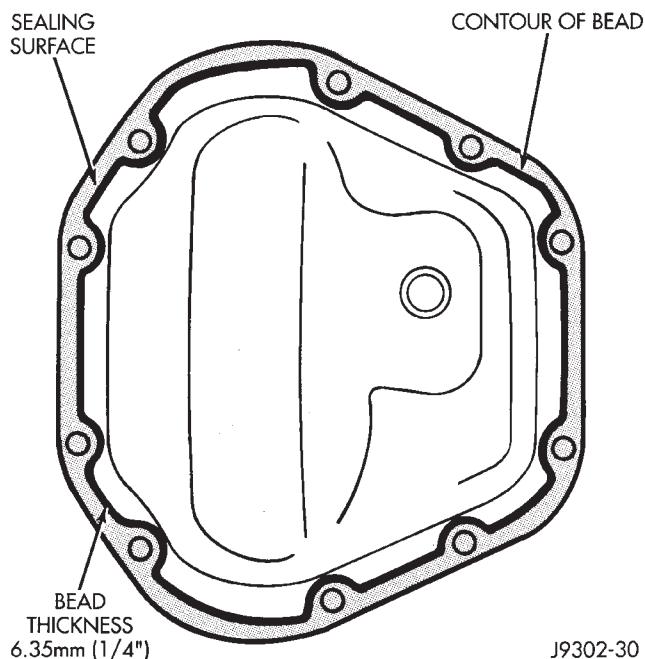

Fig. 1 Typical Housing Cover With Sealant
(1) Raise and support the vehicle.
(2) Remove the lubricant fill hole plug from the differential housing cover.
(3) Remove the differential housing cover and drain the lubricant from the housing.
(4) Clean the housing cavity with a flushing oil, light engine oil or lint free cloth. **Do not use water, steam, kerosene or gasoline for cleaning.**
(5) Remove the sealant from the housing and cover surfaces. Use solvent to clean the mating surfaces.
(6) Apply a bead of MOPAR® Silicone Rubber Sealant to the housing cover (Fig. 1). **Allow the sealant to cure for a few minutes.**